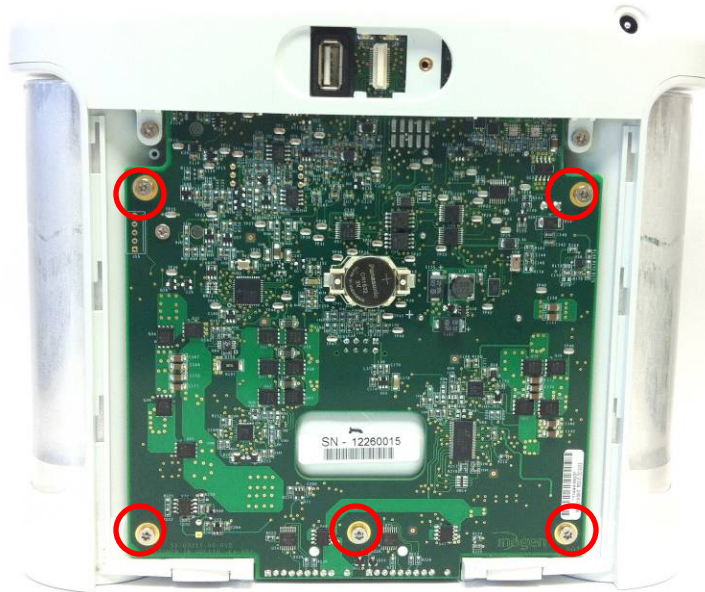

Figure 10: Screws to be removed from motherboard
2. Unscrew the five screws that attach the motherboard to the chassis on the back side of the device (Figure 10).
4. Reinstall the five screws that attach the motherboard to the chassis (Figure 10). Tighten screws to 6 in-lbs.